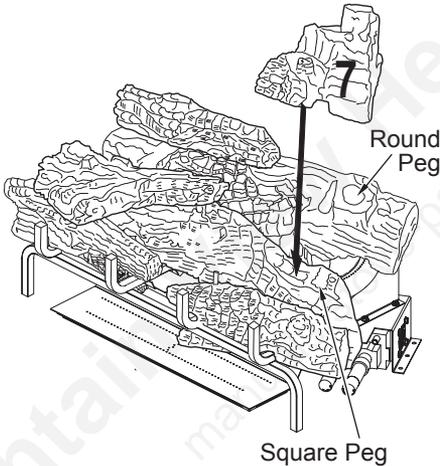

Figure 50 - Installing Log # 7
- Place the right rear chunk log (#7) on top of the middle log (#2) and rear log (#1) as shown in Figure 50, page 24. Match the round peg on the top of the rear log (#1) with the round hole on the bottom of the right rear chunk (#7) log and square peg on the top of the middle log (#2) with the square hole on the bottom of the right rear chunk log (#7).